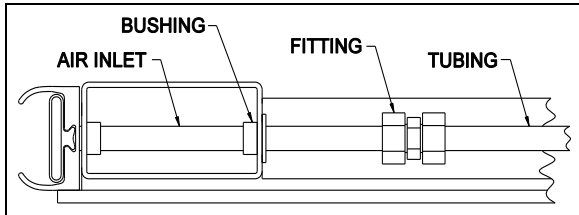

FIGURE 31: REAR SLIDE-OUT INFLATABLE SEAL AIR INLET
2. Unplug the tubing from the inflatable seal air inlet (Figure 31). Keep the bushing.
9. Replace the bushing and plug the pneumatic tubing on the inflatable seal air inlet (Figure 31).